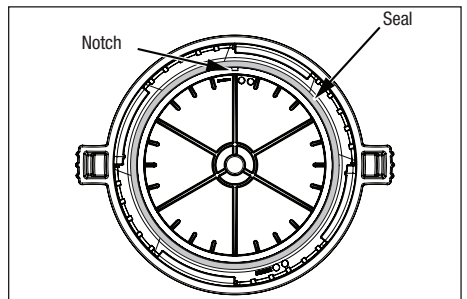

Figure 9. O-ring in Lid Assembly
7. Inspect the O-ring located in the lid for debris or damage. See *Figure 9*. If necessary, insert a flat head screw driver through the notch to assist in removing the O-ring. If there is any evidence of degradation, debris impregnation, or tearing of the O-ring, replace the seal immediately. Use only silicone based O-ring lubricants to assist in assembly.